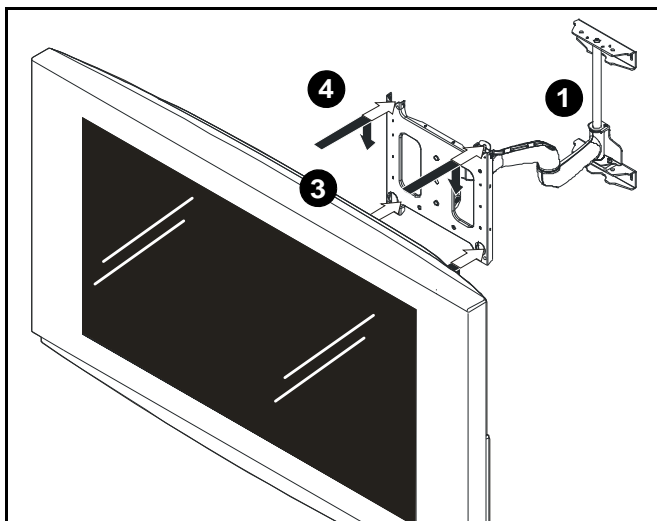
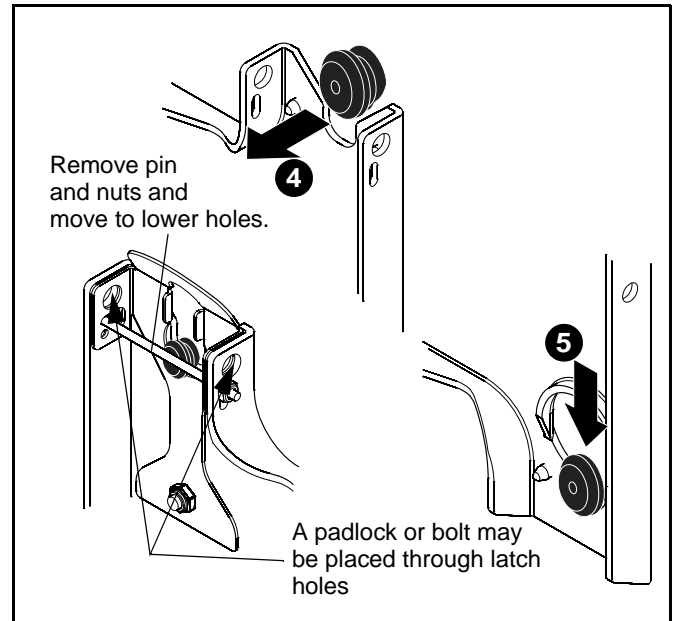

Figure 5
Figure 6
1. Move mount faceplate to extended position by grasping faceplate and pulling outward away from wall. (See Figure 5)
2. While supporting both sides of display, align four mounting buttons on display or interface bracket with four mounting holes in faceplate. (See Figure 5)
3. Lower display into place listening for audible "click" to ensure recessed area of mounting buttons are properly seated in lower area of mounting holes and "click lock" mechanism has engaged. (See Figure 5) and (See Figure 6)
permanent locking device. (See Figure 6)